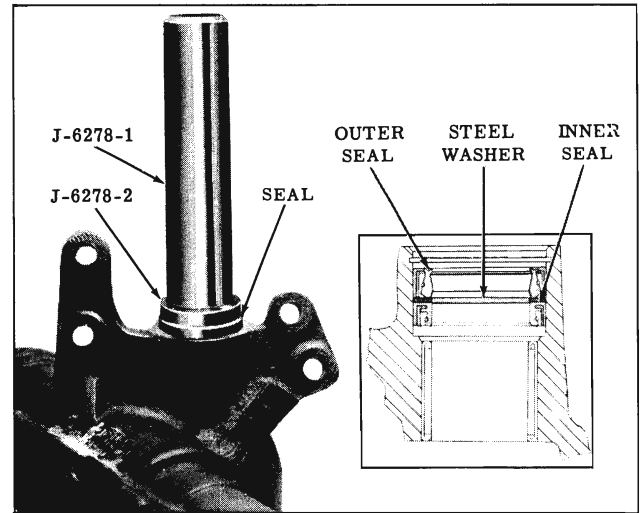

Fig. 4-272 Installing Pitman Shaft Seals
- b. Drive the seals into the housing until the top of Adaptor J-6278-2 is flush with the housing. (Fig. 4-272)
- d. Reinsert Tool J-6278 with Adaptor J-6278-2 and continue driving the seals until the retaining ring seats in its groove (Refer to Inset, Fig. 4-272), then remove the tool adaptor.